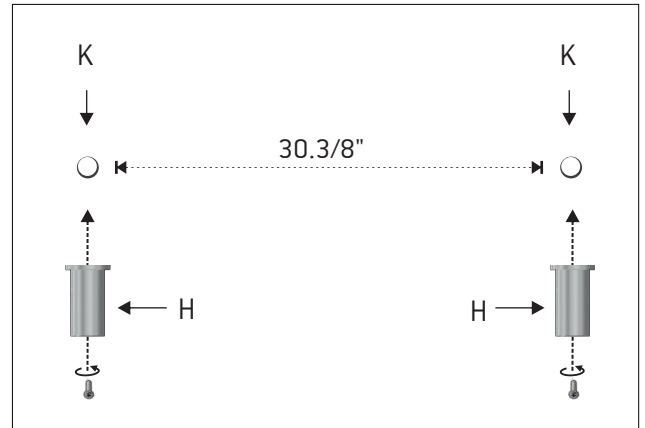
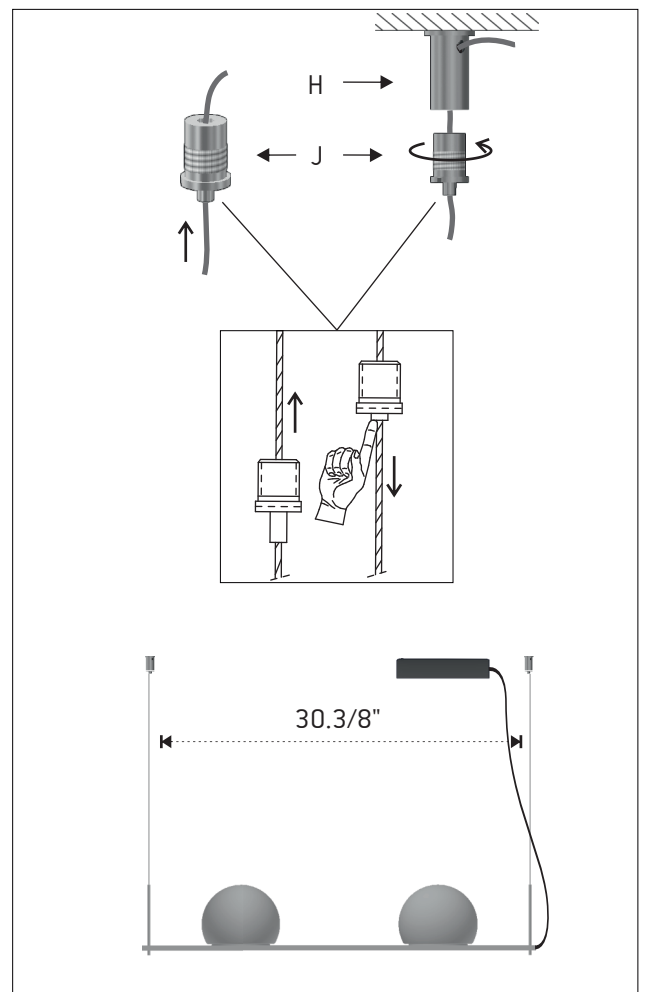

Figure 5
Figure 6
5 - Mark one spot (K) on the ceiling at a distance of 30.3/8" (772mm) between them and fix the two tensors (H) in the mark. Figure 5. (See figure 6 to see the result)
6 - Insert the steel cables into the gripper supports (J) and then insert them through the side hole of the tensors (H). Again screw the gripper support to the tensor and adjust the cable to the desired length. Figure 6